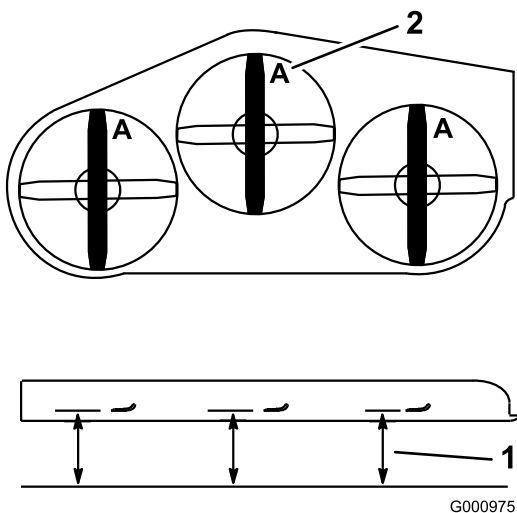

Figure 65
2. Measure from a level surface to the cutting edge, position **A**, of the blades (Figure 65).